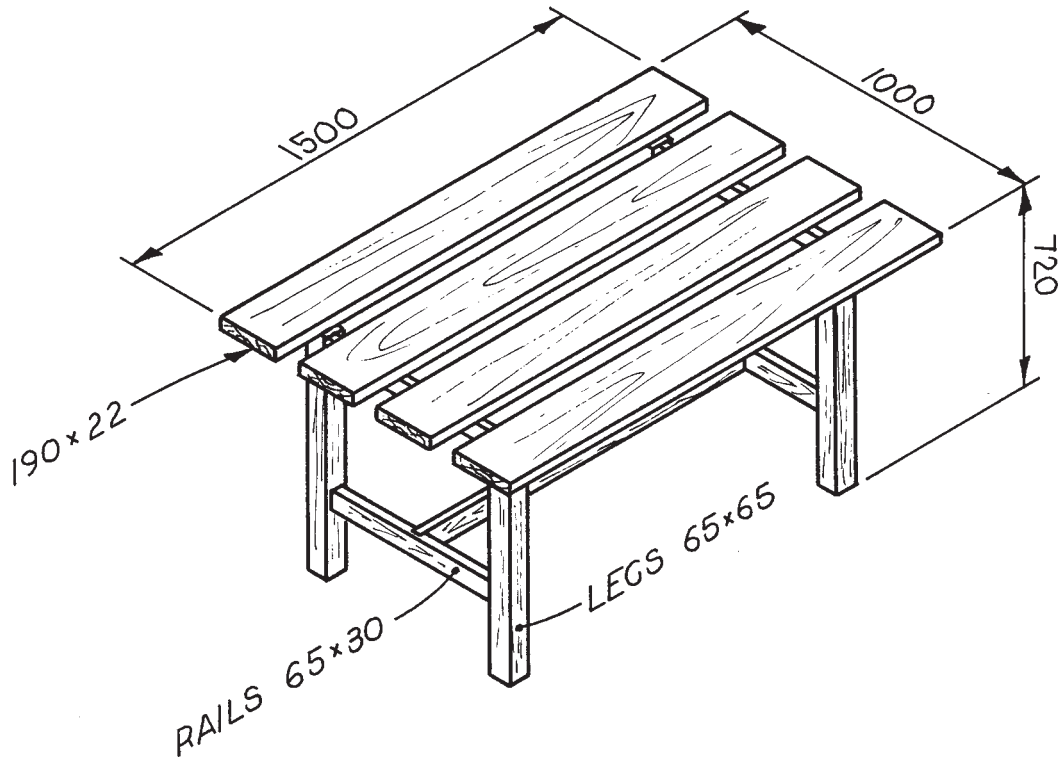

FIG. 6. OUTDOOR TABLE
A pictorial view of an outdoor table is shown in Figure 6 below.
- (c) A manufacturer wishes to design a suitable bench seat that is to be used with the outdoor table shown in Figure 6.